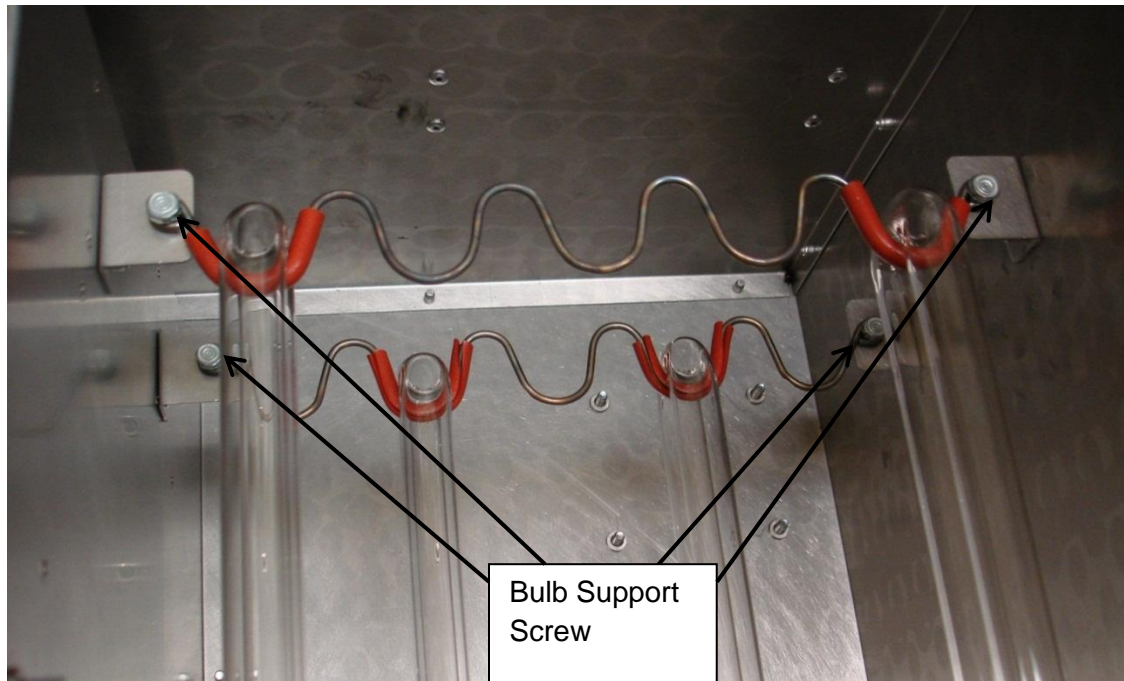

Figure 7: Bulb Supports
- 8) Remove four screws holding both bulb support wires in place (see Figure 7)